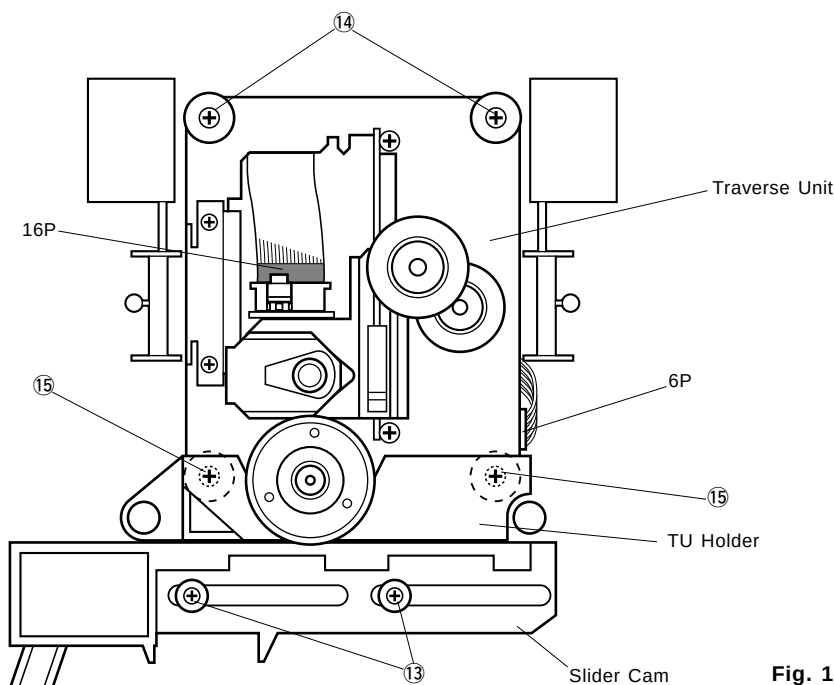

Fig. 12
- Remove 4 screws (⑬ and ⑭) in Fig. 12.
- Take out the Traverse Unit with the Slider Cam and the TU Holder in Fig. 12.
- Remove 2 screws (⑮) and then remove the TU Holder in Fig. 12.